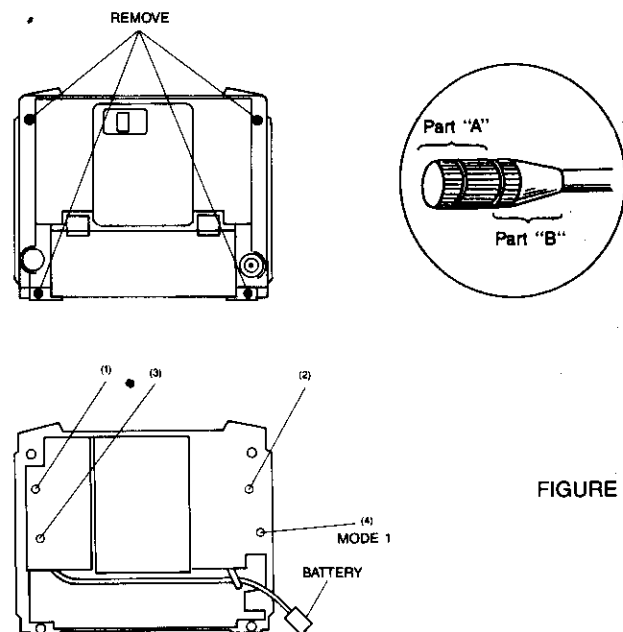

FIGURE 4
To the spring tension, first remove the four rear cover screws as indicated on the sketch below (Figure 4). The rear cover can now be lifted off. Three of the four screws indicated on the right hand sketch of a Mode II transmitter are visible. The control stick tension as follows: (1) Elevator Mode II; (2) Rudder; (3) Aileron; (4) Elevator Mode I. Adjust the screw in for more tension.